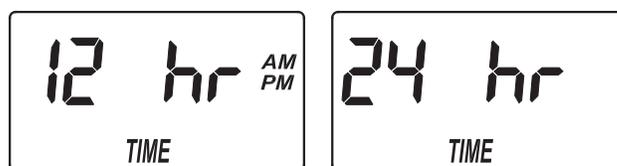

FIG. 25
1. If you completed the previous step, the 12/24 hour clock setting screen should show in the display (See Figure 25). Otherwise, press and hold for 3 seconds the SELECT button, until the display shows "000 - -", then press the SELECT button three times to display the 12/24 hour clock setting screen.